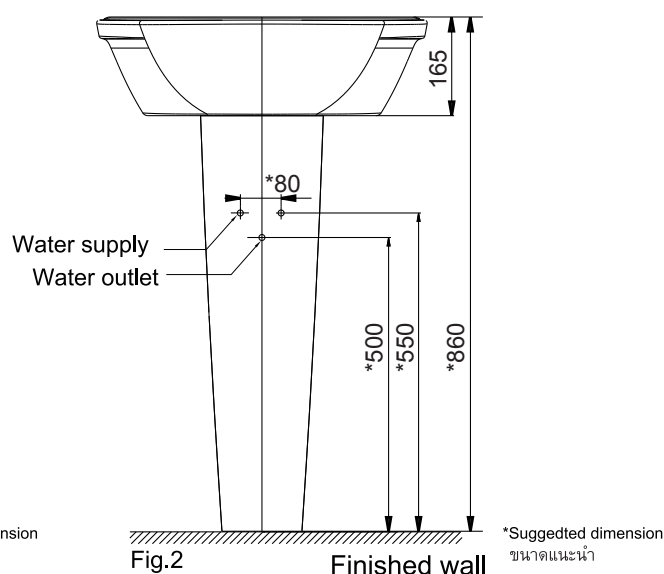

Fig.2
- Fig.2 for installing with full-pedestal